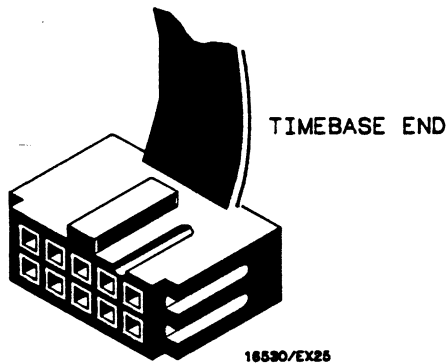

Figure 4-19. Connector End
- g. Plug the extra long ribbon cable into the timebase card. Make sure the correct end is installed. See figure 4-19.